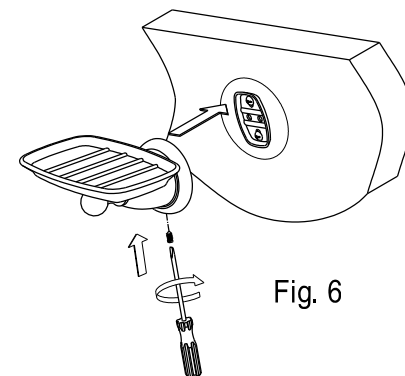

Fig. 6
Step 6. Place the unit, with the small hole in the base underneath, over the mounting plate by tightening the slotted set screw with a flat head screwdriver until the base is tightly fixed (fig 6).